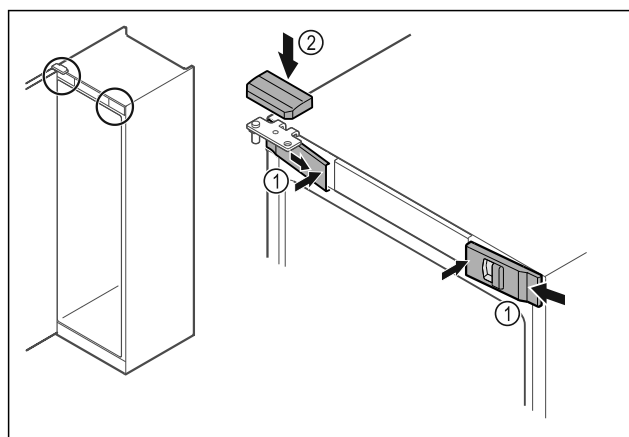

Fig. 55
- Hook in the front covers Fig. 55 (1) on the side and snap them into place on the inside.
- Snap on the top cover Fig. 55 (2) from above.